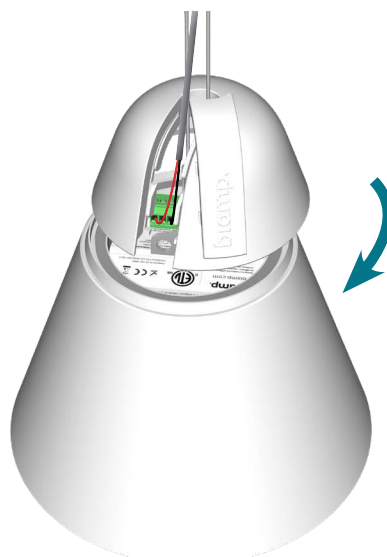

Figure 8.
10. Attach the end cap by placing it around the suspension and loudspeaker cables. Make sure the end cap is held firmly in place with the magnets (Figure 8).